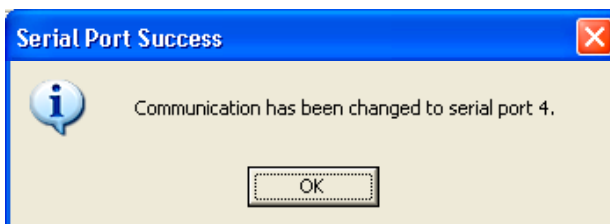

Figure 3-7. Serial Port Changes Completed.
6. Once a functional port has been selected, the program will inform the user that it will begin trying to use that port for communication to the controller (Figure 3-7). **WARNING:** Communication with the controller is not guaranteed from assigning a serial port through Windows. Windows can and will make serial ports available to the program that are not connected to any devices.